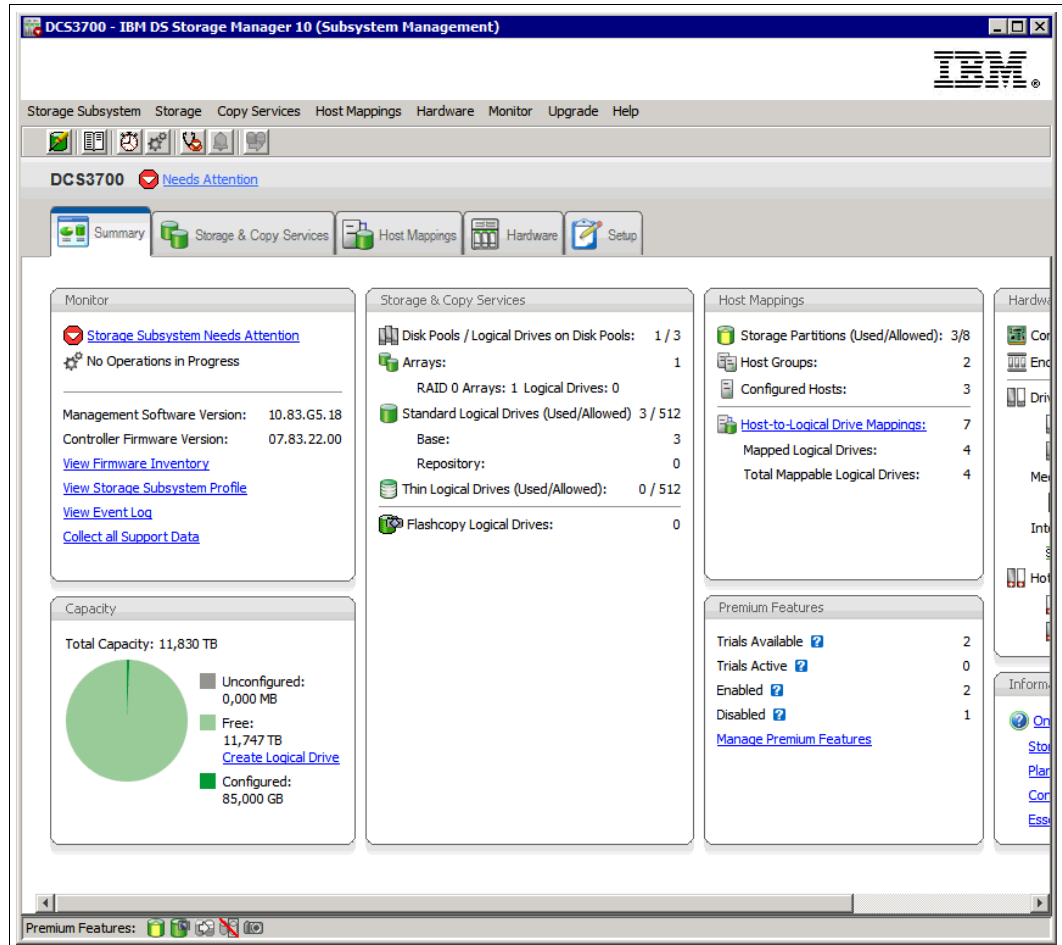

Figure 13-2 Summary tab - Storage subsystem needs attention
- ▶ The Needs Attention link appears in the DS Storage Manager (Subsystem Management), as shown in Figure 13-2.